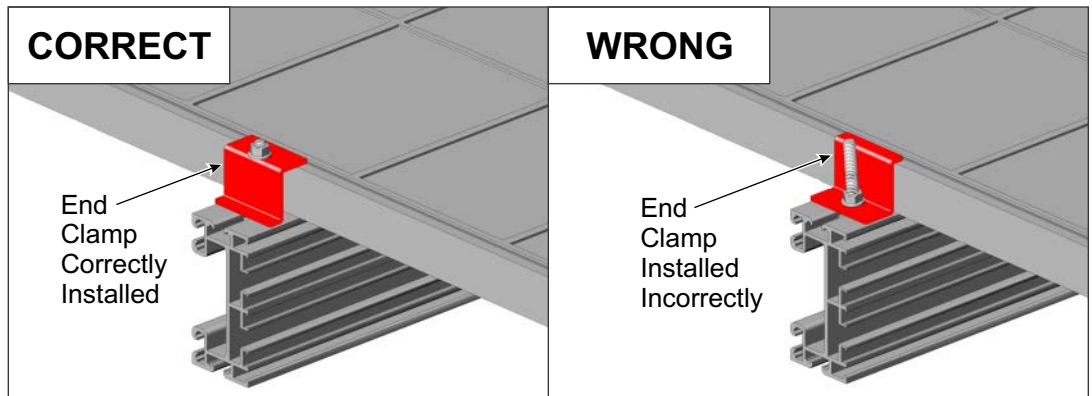
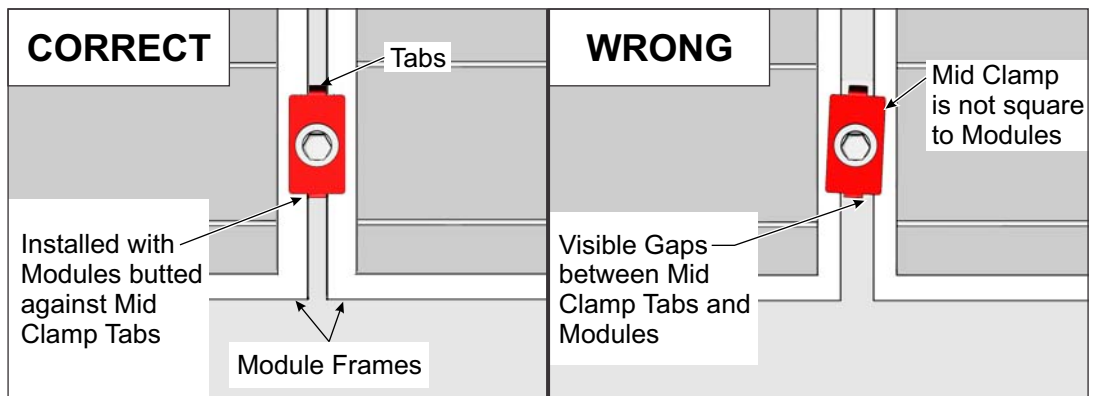

Figure 7-2: Correct and Wrong methods of installing an End-Clamp
Figure 7-3: Correct and Wrong methods of installing a Mid Clamp
Regardless of which hardware is used (Standard or RAD), there is only one correct method of installing End Clamps and Mid Clamps and it must be followed. If the correct method is not followed, the impending results could lead to personal injury, structural failure, and/or damaged components. See Figure 7-2 for proper method of installation for an End Clamp and Figure 7-3 for the Mid Clamp. Refer to these figures during the installation of the Modules to prevent any undue problems associated with an improper installation.
- C. Install the End Clamp onto the carriage bolt. Thread 5/16" flange nut onto carriage bolt and tighten. **Torque End Clamps to 14-16 ft.-lbs.** (See Figures 7-2 and 7-4)
- C. Install one Mid Clamp on each of the 5/16" carriage bolts. Be sure that the tabs of the Mid Clamp rests between the two Modules. Secure each of the Mid Clamps with a 5/16" flange nut. **Torque Mid Clamps to 14-16 ft.-lbs.** (See Figures 7-3 and 7-6)
- C. Install the End Clamp by aligning the flat portion of its hole with flat portion of the RAD bolt. Thread 5/16" flange nut onto RAD bolt and tighten. **Torque End Clamps to 14-16 ft.-lbs.** (See Figures 7-2 and 7-7)
- C. Install the Mid Clamp by aligning the flat portion of its hole with flat portion of the RAD bolt, making certain the Mid Clamp tabs are between the two Modules. The northern most Module should now be resting on the tabs of the Mid Clamp. Thread 5/16" flange nut onto RAD bolt and tighten. **Torque End Clamps to 14-16 ft.-lbs.** (See Figures 7-2 and 7-8)